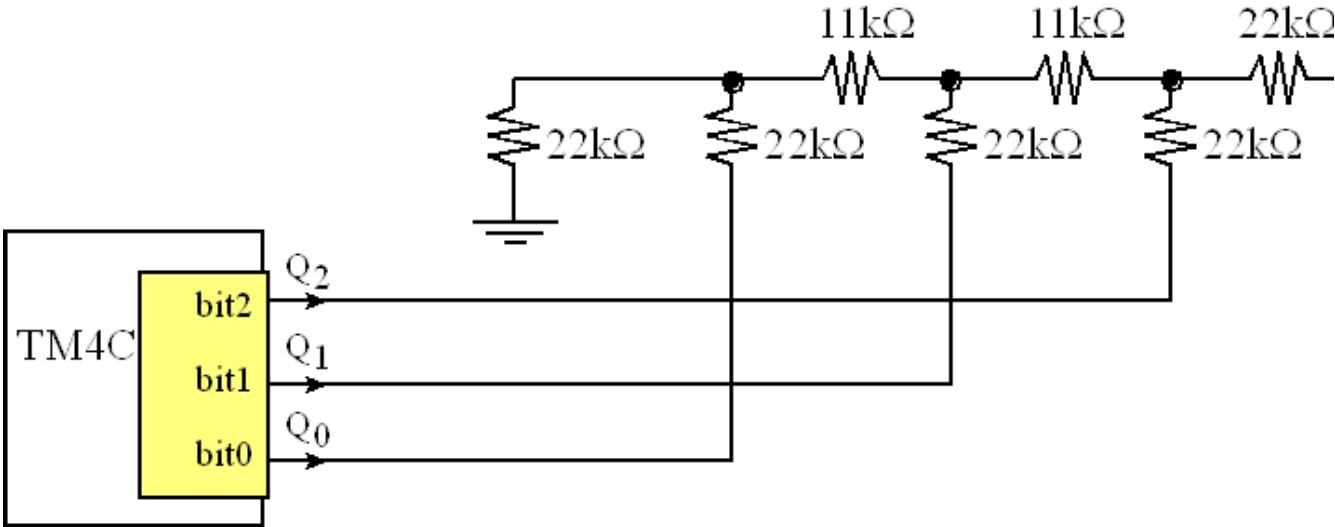

Figure 13.13. A 3-bit R-2R DAC.
**Solution:** We begin by specifying the desired input/output relationship of the 3-bit DAC. Table 13.3 shows the design specification. It will be able to generate 8 different current outputs with a resolution of about 12.5  $\mu\text{A}$ . The circuit is presented in Figure 13.13.
We assume the output high voltage ( $V_{OH}$ ) of the microcontroller is 3.3 V, and its output low voltage ( $V_{OL}$ ) is 0. A 3-bit R-2R DAC will use two R resistors (11k $\Omega$ ) and five 2R resistors (22k $\Omega$ ), as shown in Figure 13.13. The maximum current output will be  $(1/2 + 1/4 + 1/8) \cdot 3.3\text{V}/33\text{k}\Omega = 87.5 \mu\text{A}$ .